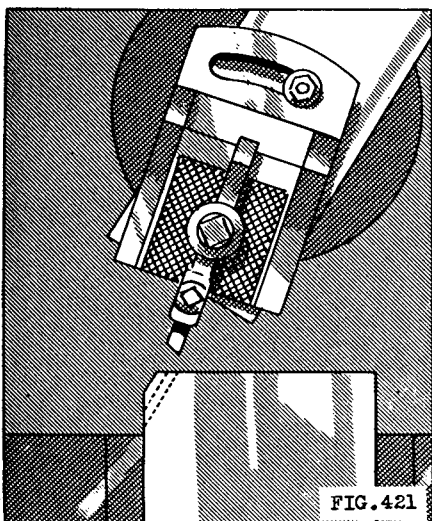

FIG. 421
9. Move the work about 1/8", or 125 thousandths on the graduated dial, in a direction toward the tool (Fig. 421).